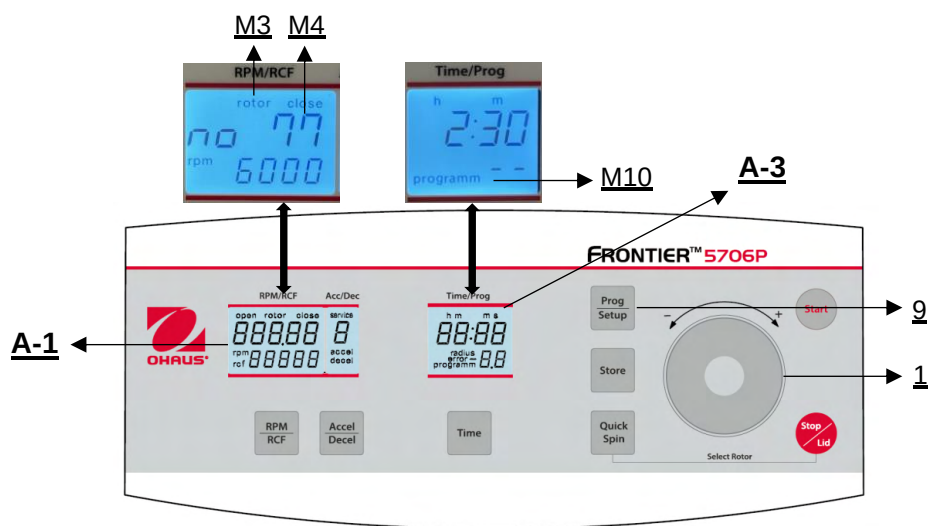

Figure. 24
To recall stored programs, press the key **"Prog/Setup"** (9) (see **Figure 24**) while the lid is already closed. Inside the display **"Time/Prog"** (A-3), **"program--"** (M10) appears. The desired program number can be pre-selected with the touch wheel (1).
To leave the program mode just press the key **"Prog/Setup"** (9) (see Figure 24). Then inside the display **"Time/Prog"** (A-3) the word **"programm"** (M10) appears. Set the display to **"programm--"** (M10) with the touch wheel (1).